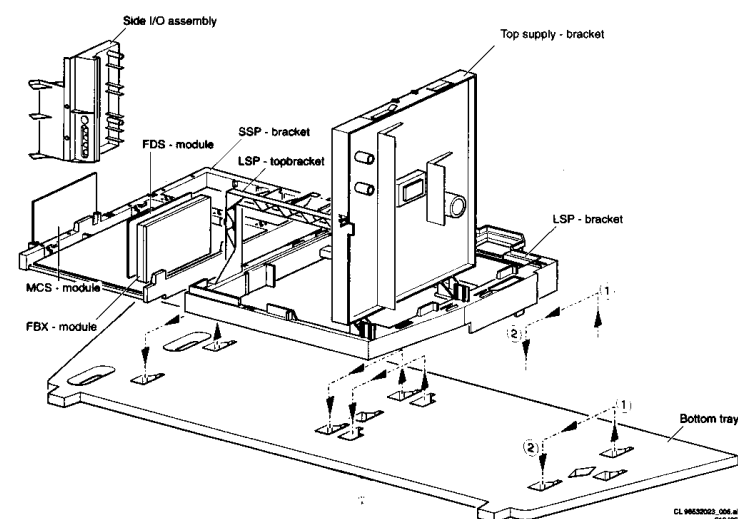

Figure 4-10
1. Pull the SSP- and LSP assembly backwards, about 8 cm (see figure 4-10). The brackets are not fixed to each other, but can be repositioned backwards, as if they were one bracket.
2. Hook the brackets in the first row of fixation-holes of the bottom tray. In other words re-position the fixation from (1) to (2).